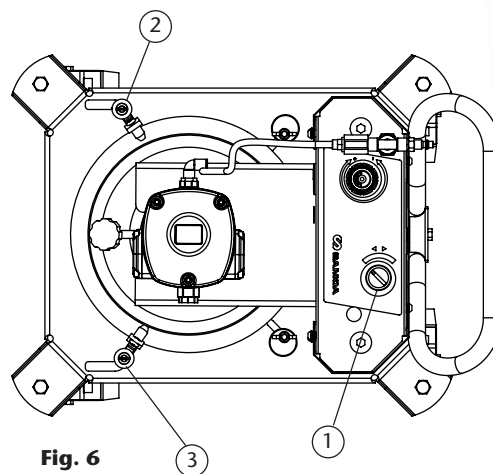
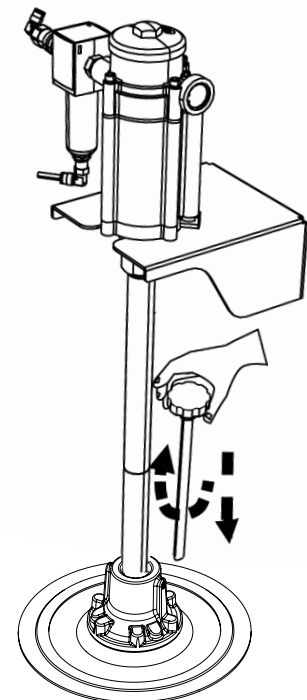

Fig. 6
Fig. 7
2. Turn the lifter control (pos. 1) (fig. 6) to the "up" position to lift the pump and the follower plate to the top.
3. Open the pail fasteners. (pos. 2) (fig. 6).
5. Close the pail fasteners (pos. 2) (fig. 6).
6. Turn the lifter control (pos.1) to the "off" position. The pump and the follower plate will approximate to the pail.
8. Turn the lifter control (pos. 1) to the "down" position.
9. When the grease is pushed out from the follower plate air bleeder opening, switch lifter control (pos. 1) to the "off" position.
10. Screw the follower plate air bleeder (fig. 7).